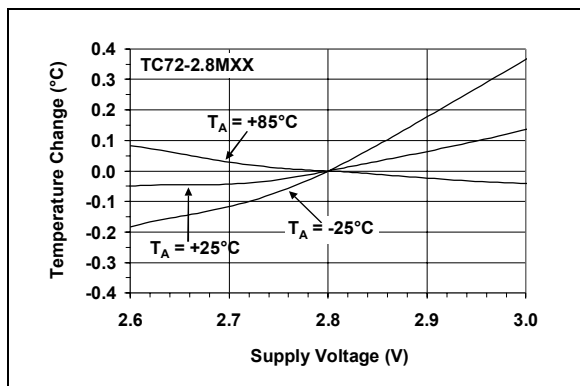
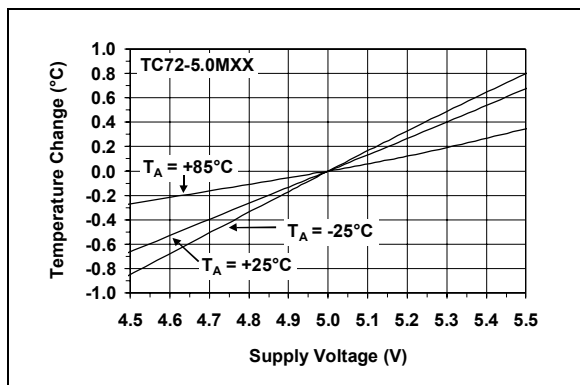

FIGURE 2-5: Temperature Accuracy vs. Supply Voltage (TC72-2.8MXX).
FIGURE 2-6: Temperature Accuracy vs. Supply Voltage (TC72-5.0MXX).
Note 1: The TC72-2.8MXX, TC72-3.3MXX and TC72-5.0MXX will operate from a supply voltage of 2.65V to 5.5V. However, the TC72-2.8MXX, TC72-3.3MXX and TC72-5.0MXX are tested and specified at the nominal operating voltages of 2.8V, 3.3V and 5.0V respectively. As V_{DD} varies from the nominal operating value, the accuracy may be degraded. Refer to Figure 2-5 and Figure 2-6.
- Note 1:** The TC72-2.8MXX, TC72-3.3MXX and TC72-5.0MXX will operate from a supply voltage of 2.65V to 5.5V. However, the TC72-2.8MXX, TC72-3.3MXX and TC72-5.0MXX are tested and specified at the nominal operating voltages of 2.8V, 3.3V and 5.0V respectively. As V_{DD} varies from the nominal operating value, the accuracy may be degraded. Refer to Figure 2-5 and Figure 2-6.